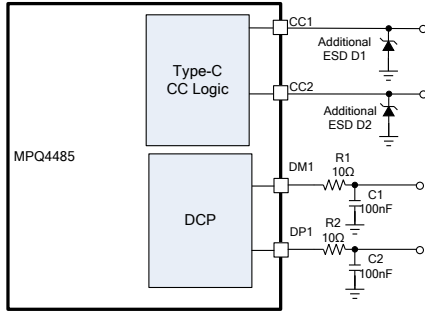

Figure 11: I/O Pins for ESD Enhancing
A higher ESD level should be considered for all USB I/O pins. The MPQ4485 features high ESD protection up to ± 8 kV human body model on DP, DM, DM_OUT, DP_OUT, USB1, and USB2, and ± 5.5 kV human body model on CC1 and CC2. The ESD structures can withstand high ESD both in normal operation and when the device is powered off. To further extend DP1 and DM1's ESD level for covering complicated application environments, additional resistors and capacitors can be added (see Figure 11).
- 10) See Figure 11 for I/O pins' ESD protection enhancing details.